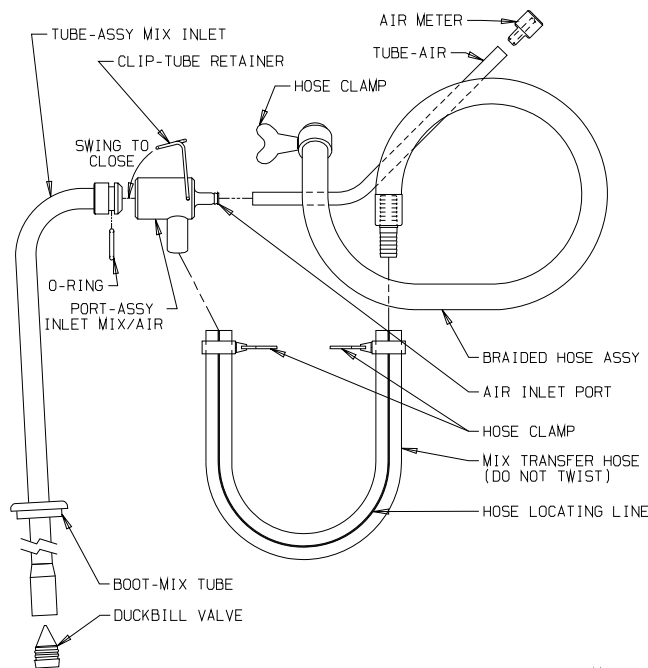

Figure 6-5 MTS Hose Assembly
12. Disassembly MTS hose assemblies as shown in figure 6-5.